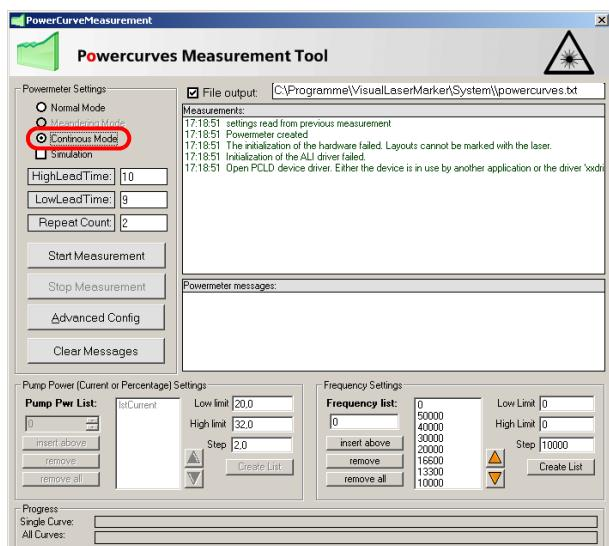

Figure 7.10 Selecting the Continuous mode
4. Select "Continuous Mode" (see figure 7.10).